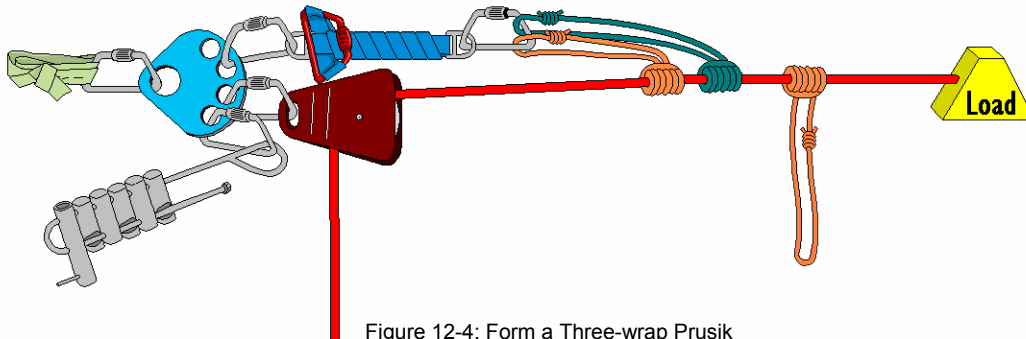

Figure 12-4: Form a Three-wrap Prusik
4. Form a three-wrap prusik on the belay/safety line on the load side of the tandem prusik brake. (Figure 12-4)